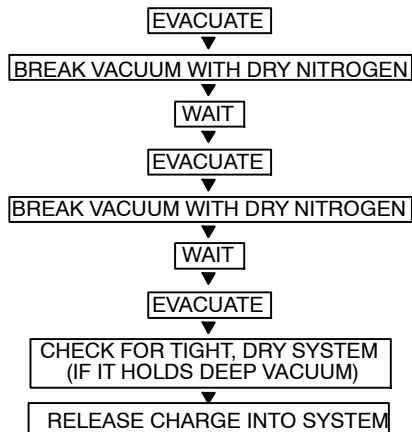

Fig. 23 – Triple Evacuation Method
The triple evacuation method should be used. Refer to Fig. 23 and proceed as follows:
- 5 Repeat this procedure as indicated in Fig. 23. System will then be free of any contaminants and water vapor.